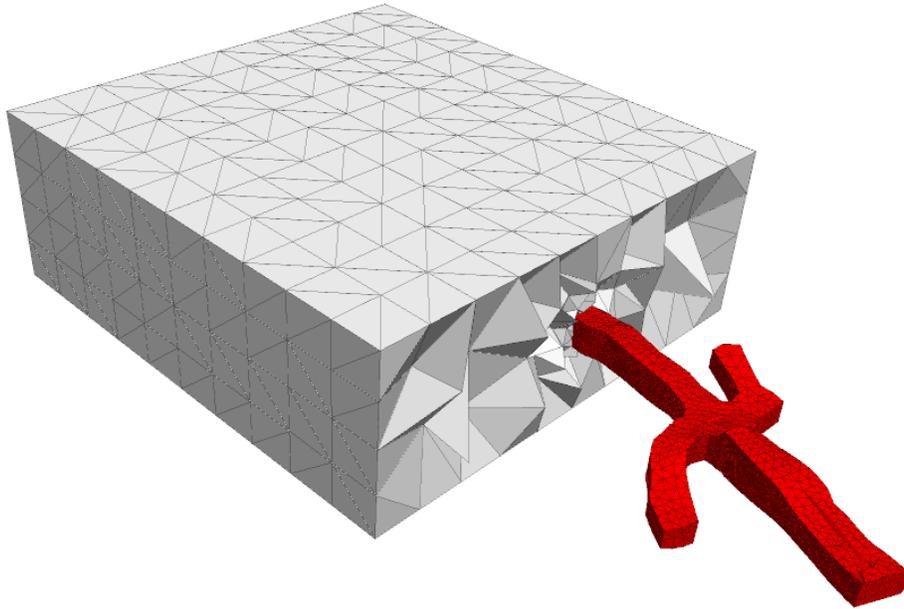

Figure 111: *Griddle* generated rigid tetrahedral blocks read into 3DEC.
9. We can also **_SelMesh**, and run *GVol* with **Mode:Tet** with *3DEC* output to obtain a rigid block grid which can be read into *3DEC* (Figure 111). Note, *3DEC* output consists of a data file with *3DEC*